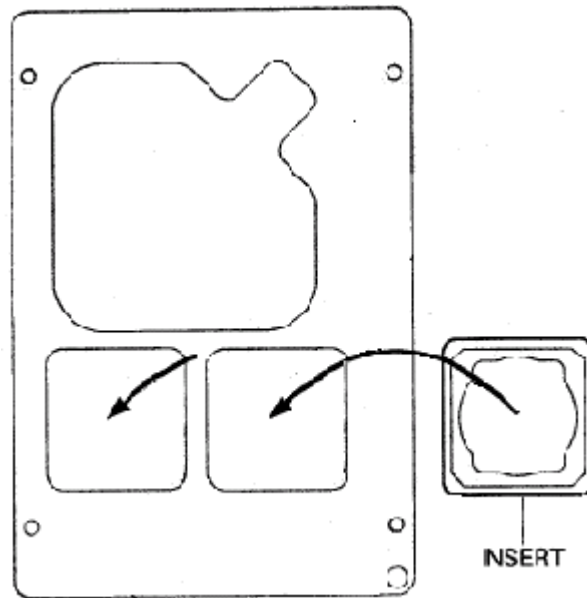

Figure 3
- [8] Place INSERTS, Part # 307F751 into the apertures of the DEVELOPER TEMPLATE, Parts B & C (see figure 3).